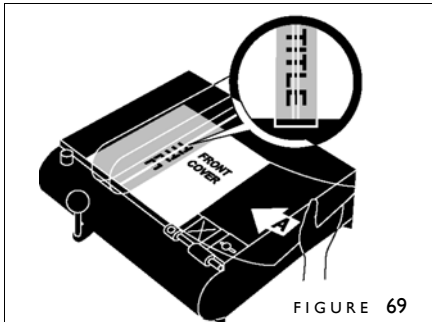

FIGURE 69
- Slide your cover under the transparent bar until your title is centered between the two silver lines (figure 69). The bottom of your cover must rest against the Left Stop and the Guide Rail. Push the Lever to the right to clamp your cover in place.